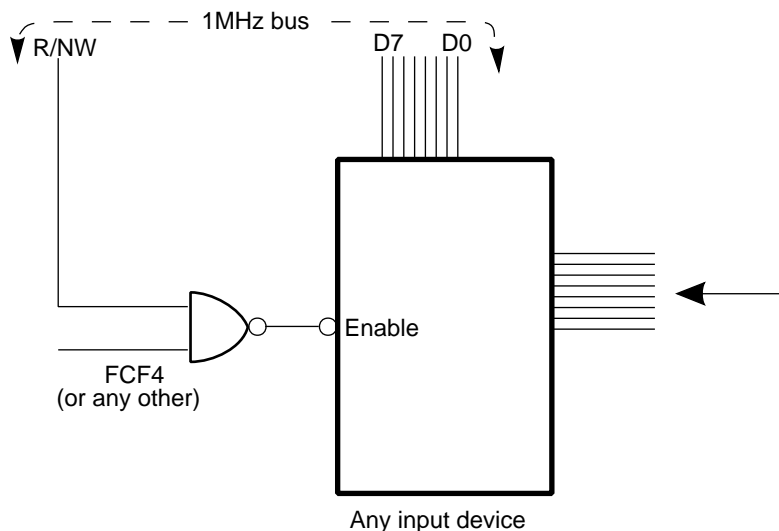

Figure 1.9. Gating the READ/WRITE line to input devices
Up to this point, the devices described have all delivered outputs, from the computer to the outside world. However, many systems may include one or more input devices passing data from the outside world to the computer. One obvious example is an analogue to digital converter. There are two dangers inherent in the design of input devices. The first is obvious: make sure that the voltages coming from the outside world are within the allowed maximum (usually within the range 0 V to 5 V). The second danger is more obscure. If an input device is enabled, it normally places data on the address bus. Thus the instruction should READ from the data bus (an LDA for example). But if, by mistake, we WRITE (an ST A, for example) there is a conflict of loyalties on the data bus because two independent sets of data are trying to gain control. This could damage some of the circuits. The remedy is either to become an infallible programmer (we have never yet met one) or incorporate something on the lines shown in Fig. 1.9.
In Fig. 1.9, a NAND gate is fed by the R/NW line and the decoded device address. The output from the gate is logic 0 only if both inputs are logic 1. Therefore, even if the device address is correct (FCF4 in the example) the R{NW line must be logic 1 which is present only if the instruction is to READ. If, in error, the programmer causes a WRITE action, the R/NW line is turned to logic 0 and the NAND output rises to logic 1. Because the device in Fig. 1.9 has a bubble at the enable input, the input device is not enabled. Thus, it is now impossible to jam the data bus by trying to *write to an input device*. If the device had no enable bubble (and some of them haven't), it would be necessary to include an inverter in the NAND output line. This latter point illustrates how easy it is to be 'one inversion out' when designing logic systems. You can never be just a little bit out (as in analogue design). It is either dead right or dead wrong!
22. Devices which deliver data from the outside world (input devices) should be gated with the read} write line (R{NW) in case a WRITE instruction is given in error (see Fig. 1.9).